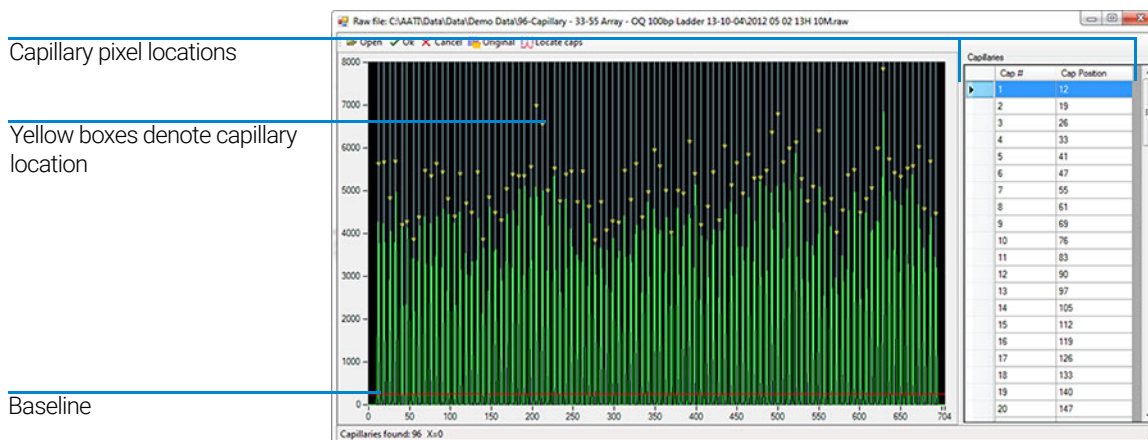

Figure 28 Align from file window for 96-capillary system
- 4 The *Align from File* window opens (**Figure 28**), allowing the user to align the capillaries from the selected run file. The toolbar of the *Align from File* window is discussed in **Table 8**.
- 5 Left-click the red baseline and draw it upwards from the bottom of the graph but not above the top of capillary peaks, as shown in **Figure 28**.